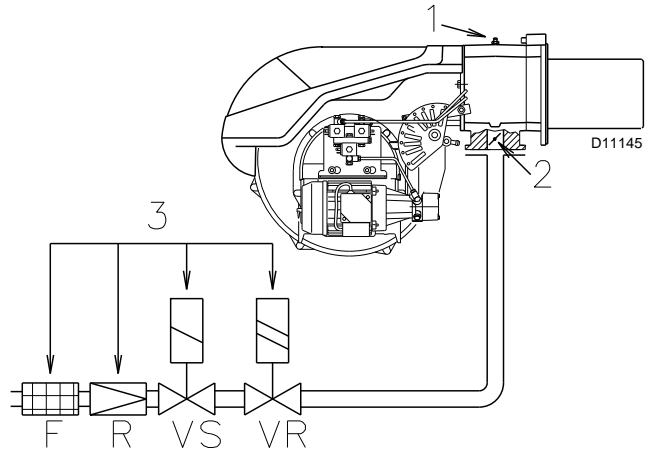

Fig. 25
Gas pressure measured at test point 1)(Fig. 25), with:
Pressure loss at gas butterfly valve 2)(Fig. 25) with maximum opening: 90°.
Pressure loss of gas train 3)(Fig. 25) with gas G20 includes:
- subtract the combustion chamber pressure from the gas pressure measured at test point 1)(Fig. 25).
- Gas pressure at test point 1)(Fig. 25) = 12 mbar
To calculate the required gas pressure at test point 1)(Fig. 25), set the maximum output required from the burner operation:
- Read off the pressure at test point 1)(Fig. 25) on the right in column 1.
pressure required at test point 1)(Fig. 25).